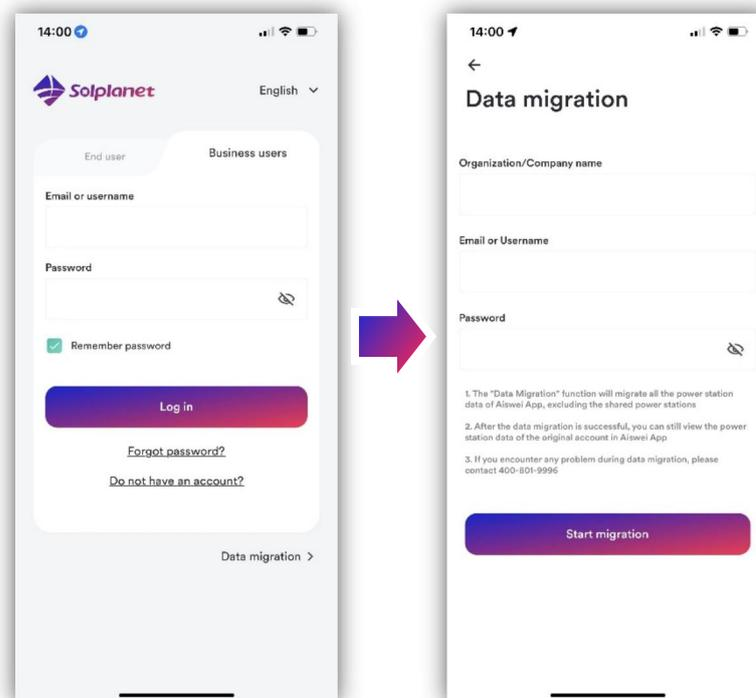

Figure 4.1. Data migration
- For details, please refer to Figure 4.1.